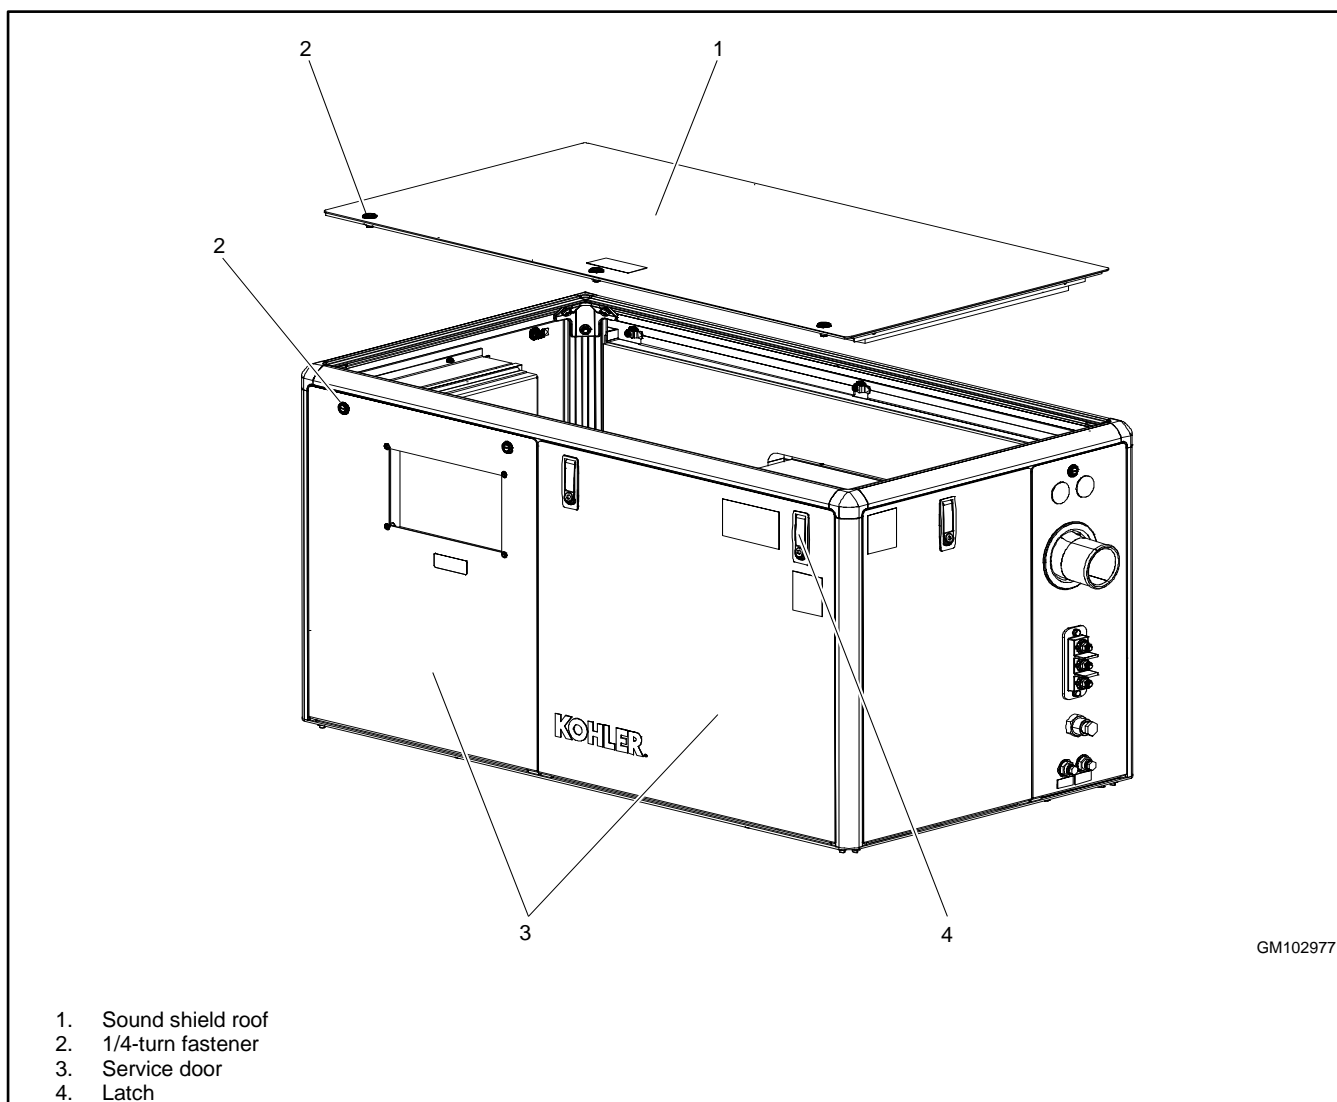

Figure 5 Sound Shield Door and Roof Removal, Typical
1. Open the service doors by releasing the latches, if equipped, or by using a flat-head screwdriver to turn the 1/4-turn fasteners. See Figure 5.
2. Lift up the roof by using a flat-head screwdriver to turn the 1/4-turn fasteners. See Figure 5.